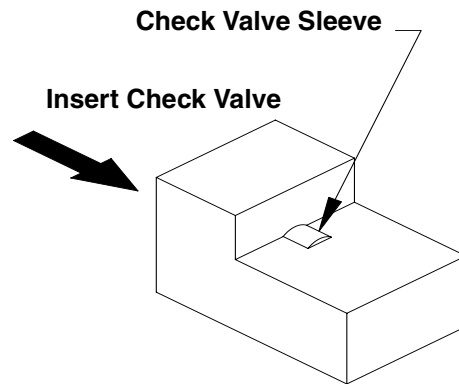

FIG. 24: Sleeve Removal Block
- c. Remove damaged check valve sleeve. Remove ball and spring. Insert check valve into check valve sleeve removal block (FIG. 24). While holding block, and keeping pressure on head of check valve, slice check valve sleeve with razor knife at a 10 - 15 degree angle relative to the plane of removal block. Remove check valve from block and peel sleeve off. If check valve sleeve remains in gun block after removing